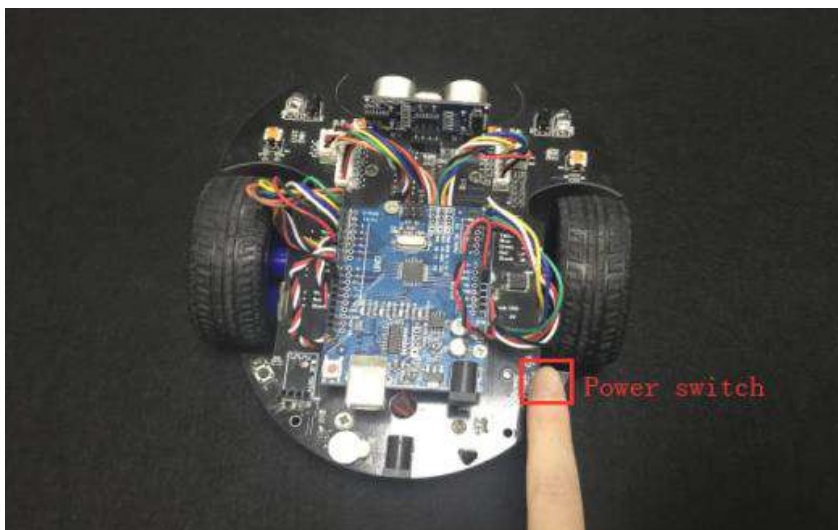

Figure 1
4. After the program is successfully uploaded, as shown in Figure 1, press the power switch, you can see that the BatCar starts moving forward after 2 seconds .